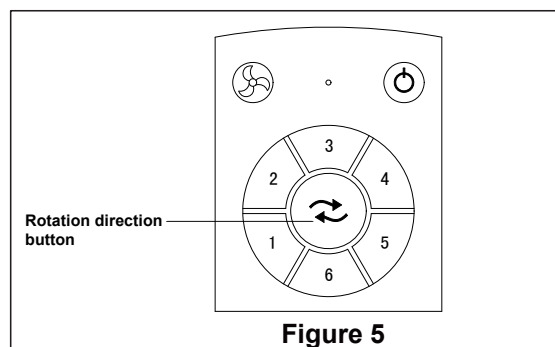

Figure 5
- ☐ If airflow is desired in the opposite direction, Press the  button again. (Figure 5)